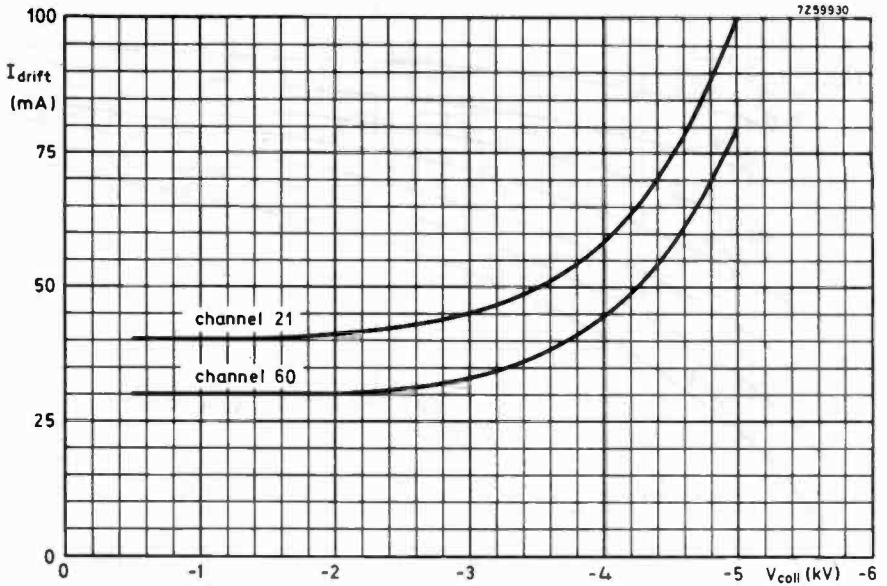

Fig. 11.
* For limiting values of various operating conditions see next page and Fig. 11.
6. At black level, to be focused for minimum drift tube current. If necessary to obtain the required signal-transfer quality, a deviation of maximum 10% from this minimum current is permitted. The limiting value, see Fig. 11, must however, not be exceeded.